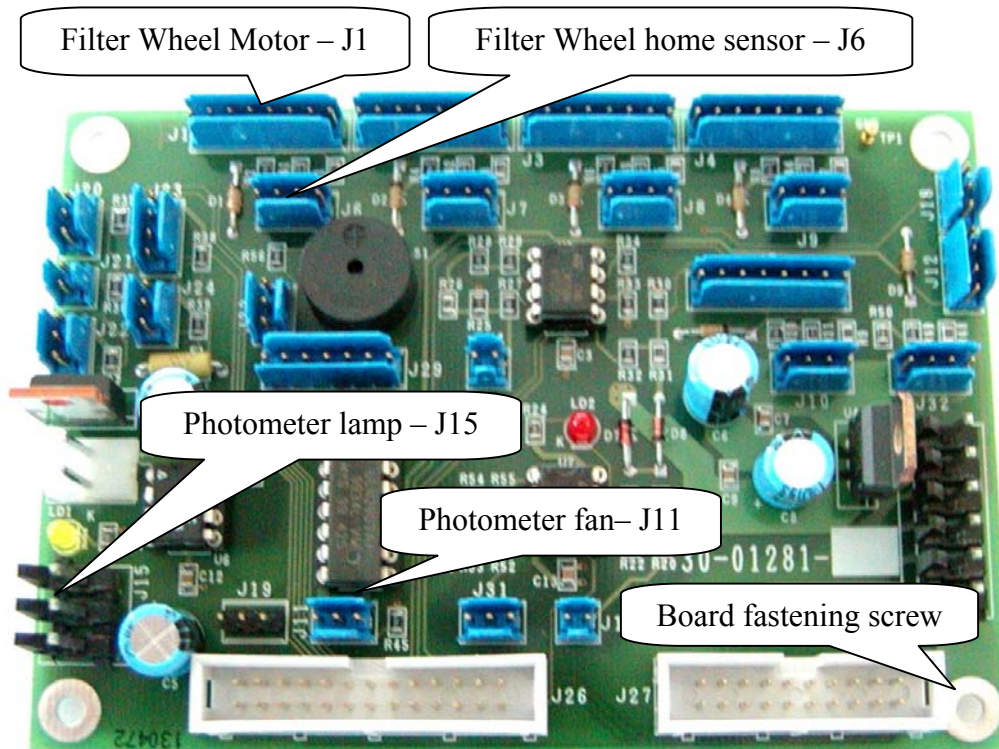

Fig. 47 Plate Interface Board Cd. 30-01281-01
2. Remove the J1, J6, J11, J15 connectors from the Plate Interface board (Fig. 47) and the ground wire from the Optic Assembly.
3. Unscrew the four fastening screws of the Plate Interface board (Fig. 47).
2. Remove the J1, J6, J11, J15 connectors from the Reaction Plate Interface board (Fig. 47) and the ground wire from the Optic Assembly.